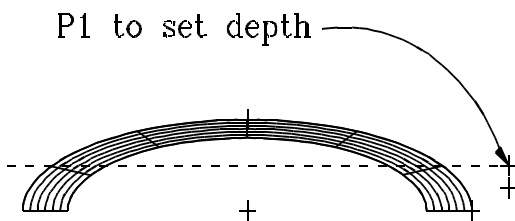

Figure 9:
Looking down on the top of the dispenser, you will place a circle that represents one wall of the cavity at the depth indicated by the dashed line in Figure 9. The circle will be placed in the front view. To ensure the proper depth, you will use **Set Depth** to temporarily freeze the depth in the front view.
16. In the top view, click on point P1 (the topmost red point), as shown in Figure 9 to freeze the depth to this point. The -Depth Snaps? sets itself to 'view'.